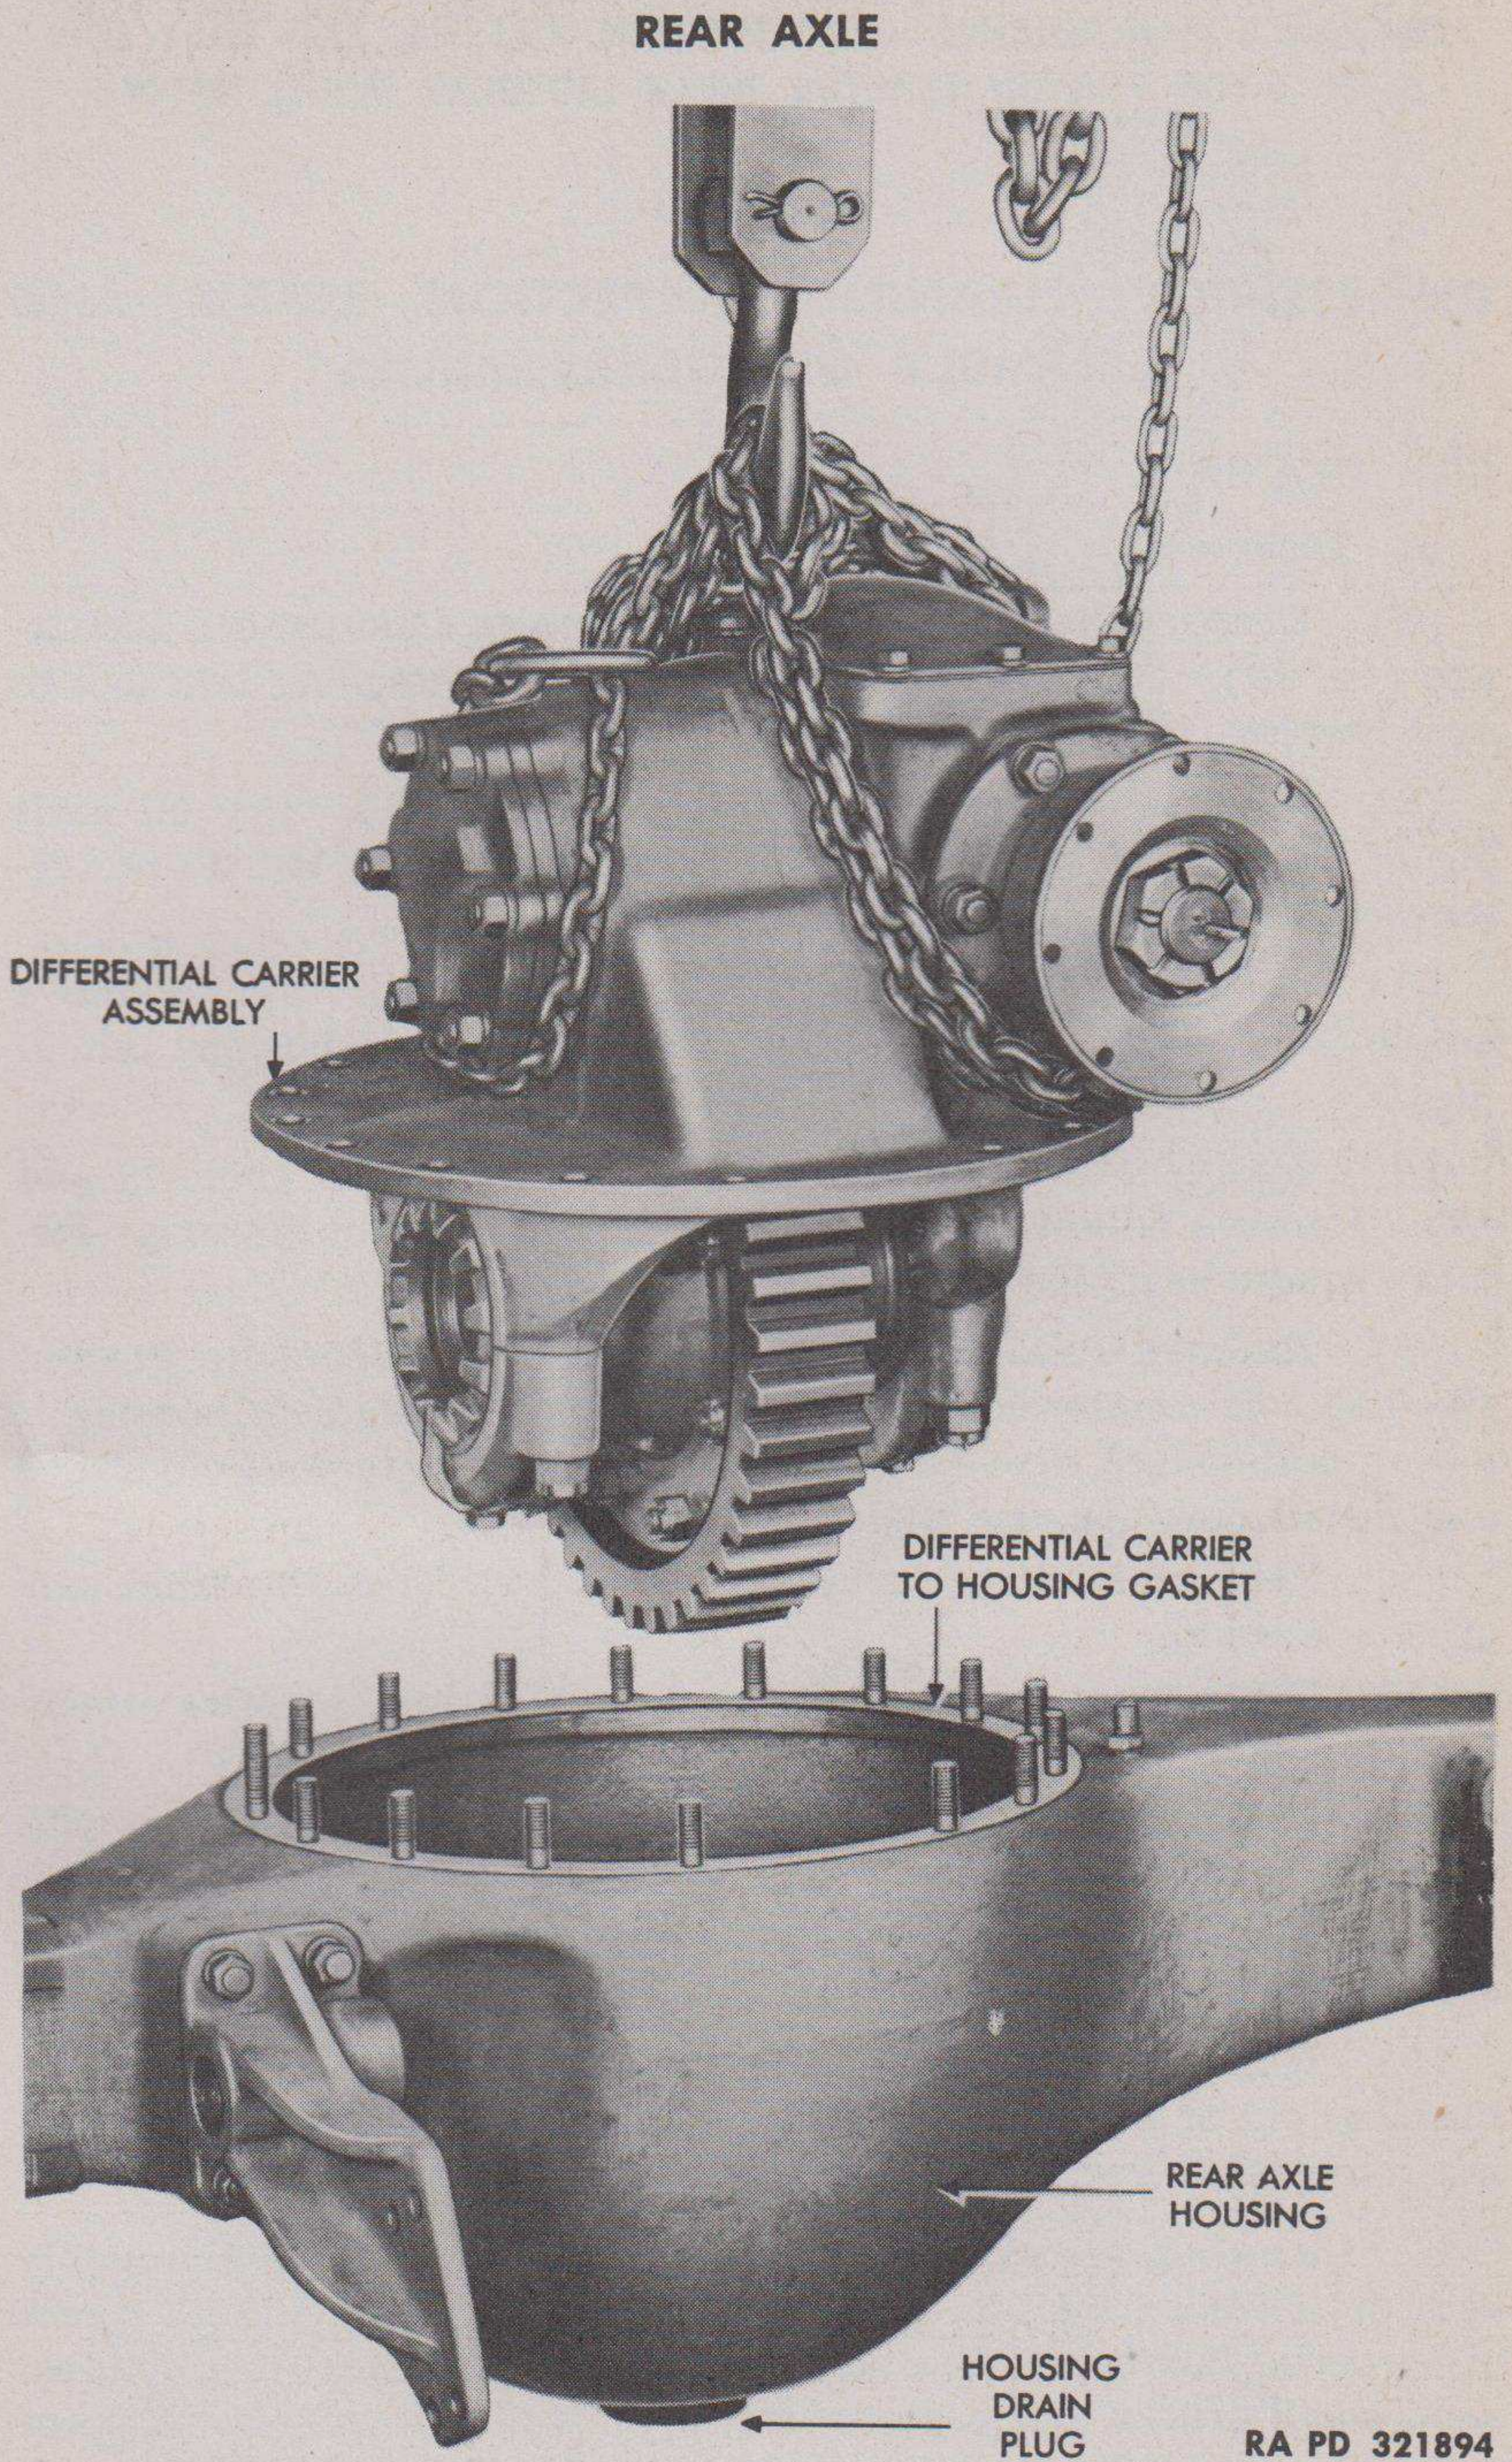

Figure 47 — Removing Differential Carrier Assembly
- k. **Remove Differential Carrier Assembly (fig. 47).** Remove 16 nuts and lock washers attaching differential carrier to axle housing. Pry out 1 dowel located on carrier to housing stud. Tie chain or rope around differential carrier and lift out of axle housing with hoisting equipment. Remove differential carrier to housing gasket.